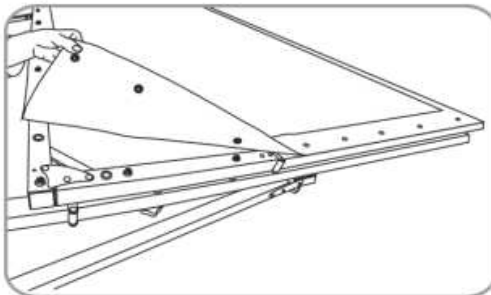
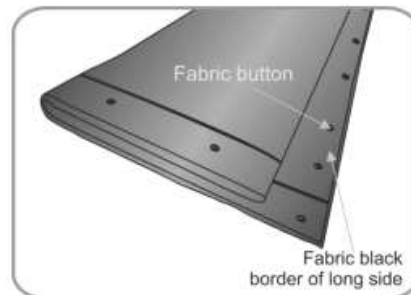

Fig. 15
Fig. 16
02) Take the fabric off the frame, by releasing the buttons (Fig. 15). Clean the fabric, if necessary. Double up the fabric along the short sides (Fig. 16) and double it up again (Fig. 17). The 100" fabric should be doubled up 3 times, while the 120" and 150" fabrics – 4 times. Double it up again (Fig. 18). Leave the black border uncovered, to prevent scratches. Do not perform this step unassisted. 2 technicians are required.